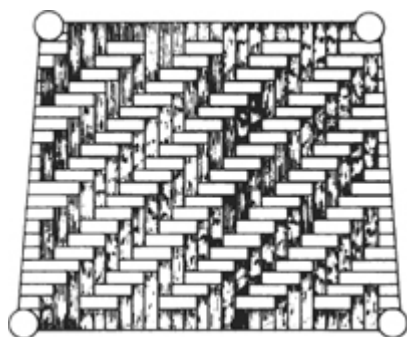
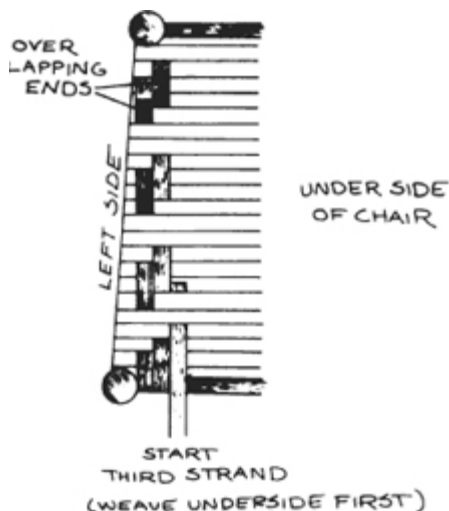

fig. 27
fig. 28
13. Weave the other end of the strand over three and under three on the top of the seat until you reach the back rail. Go over the back rail and continue to weave the pattern as shown in Figure 27. When you come to the end of the splint strip, cut it to end right behind the front rail on the bottom of the chair. Figure 28. To add a new length of splint, weave it from the front rail to the back rail directly on top of the previous piece. This overlapping will keep both ends firmly in place. Follow Figure 27 for the rest of the pattern.